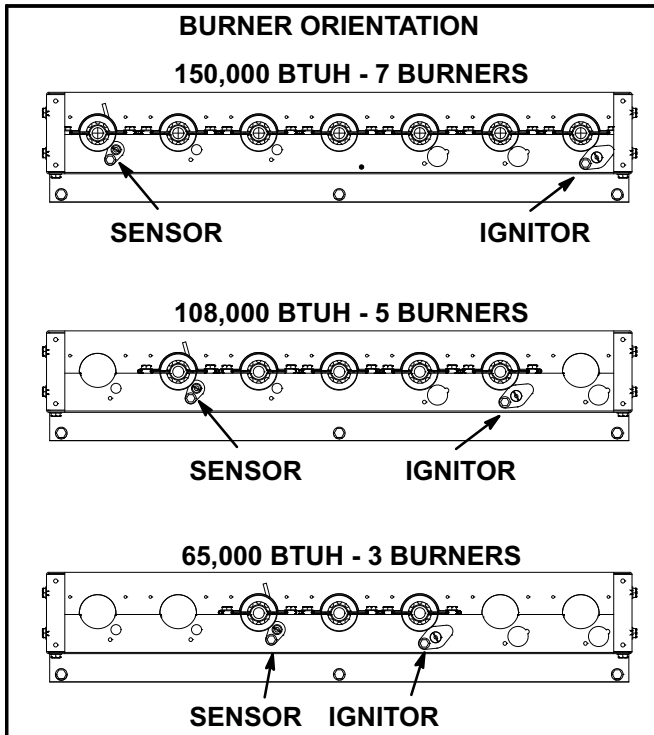

FIGURE 26
- 6- Replace burners and screws securing burner. See figure 26.